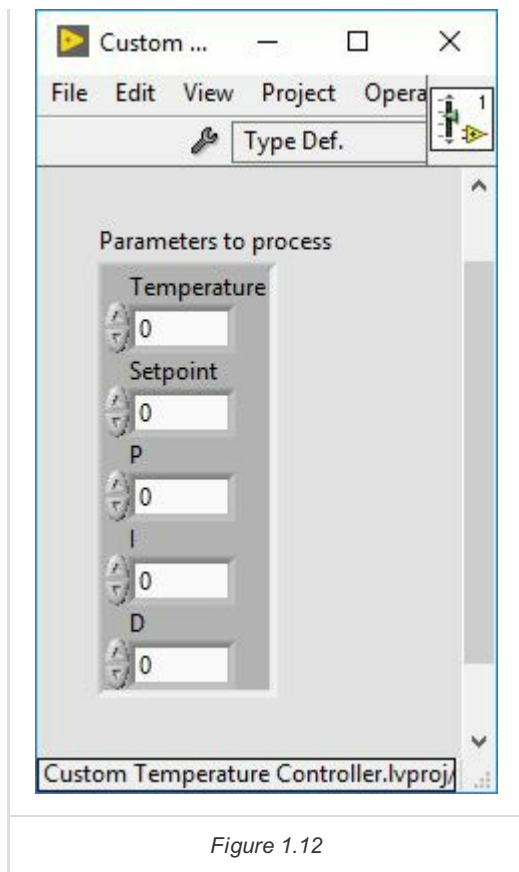

Figure 1.12
2. Add the new channels for the cluster to look like in figure 1.12